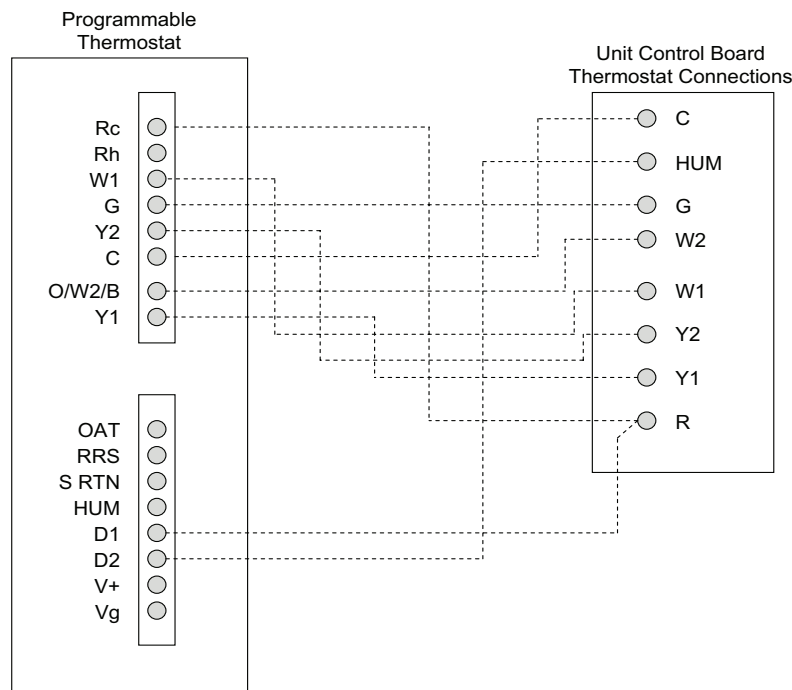

Fig. 37 — Typical Rooftop Unit with Perfect Humidity Dehumidification System and Programmable Thermostat
3. The thermidistat has dry contacts at terminals D1 and D2 for dehumidification operation (see Fig. 37). Connect D1 to the R terminal on the UCB. Connect D2 to the HUM terminal on the UCB. Refer to the installation instructions included with the field-installed thermidistat device for more information.